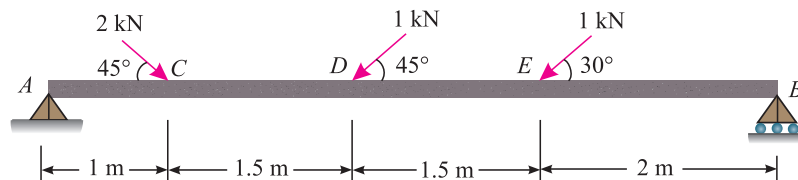

Fig. 13.67
5. Analyse the beam shown in Fig. 13.67.